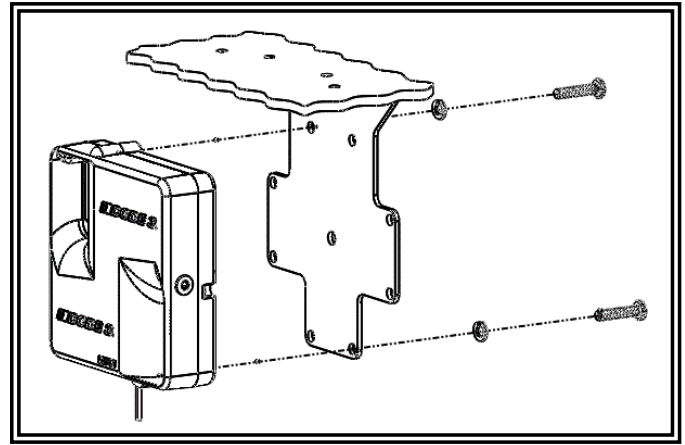

Figure 1
Step 5. Attach the speaker to the bracket using the supplied screws and washers as shown in Figure 1.